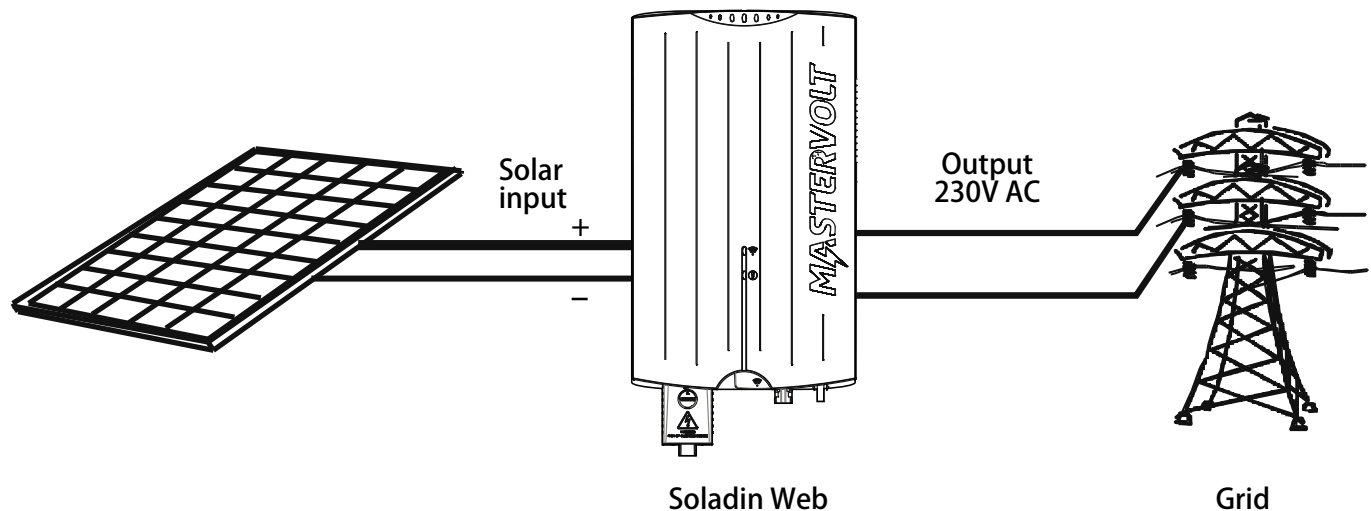

Figure 3-1: Schematic example of the Soladin in a PV plant
The Soladin Web is a grid connected photovoltaic power inverter. It converts the high voltage DC power coming from the photovoltaic (PV) panels into AC power. The AC power is fed back into the public utility grid, see figure 3-1.
See figure 3-1.